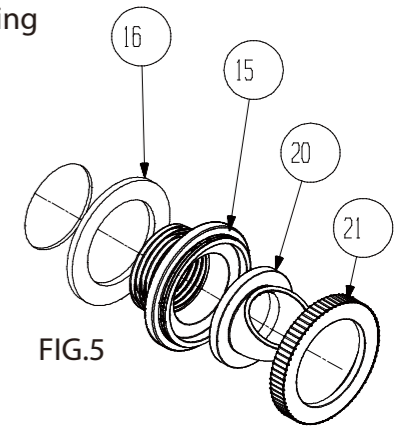

FIG.5
A. **DIVERTER FITTING USE;** diverts direction of return water entering the pool, see part #20 FIG.5. You can adjust the fitting by loosening the LOCKING RING see part # 21 FIG 5. The DIVERTER FITTING can be used to help generate clockwise rotation of the pools water toward the SKIMMER intake opening area of your pools wall. To do so slightly loosen the LOCKING RING and rotate the DIVERTER FITTING upward pushing water horizontally under the waters surface pointing away from the SKIMMER Intake area. DO NOT POINT it directly toward the SKIMMER this will deeply decrease skimming and filtration. Tighten the LOCKING RING to hold the DIVERTER FITTING in the desired position you choose. You can position the DIVERTER FITTING downward later to assist in keeping sediment from building along the bottom of your pool.